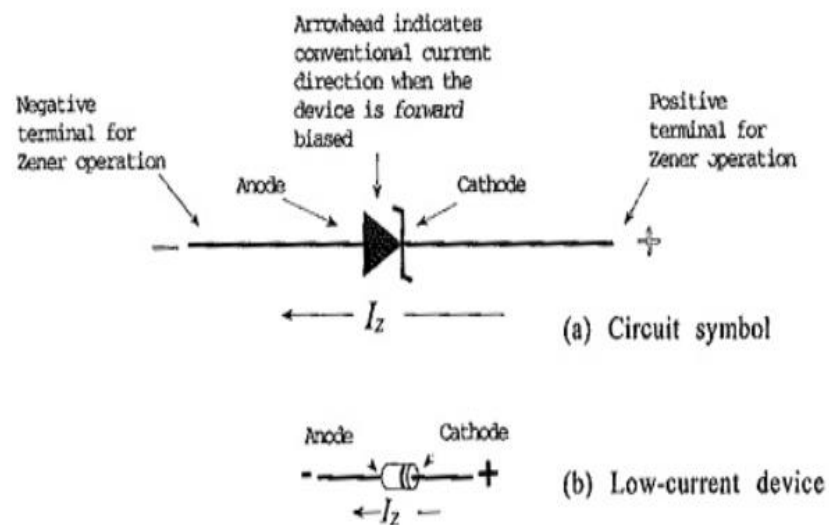

Fig.1.28. Zener circuit symbol and low current zener diode package
- The circuit symbol for a Zener Diode's Characteristics in Fig. 1.28(a) is the same as that for an ordinary diode, but with the cathode bar approximately in the shape of a letter Z.
- Low-power Zener diodes are available in a variety of packages. For the device package shown in Fig. 1.28(b), the coloured band identifies the cathode terminal, as in the case of an ordinary low-current diode. High-current Zener diodes are also available in the type of package that allows for mounting on a heat sink.